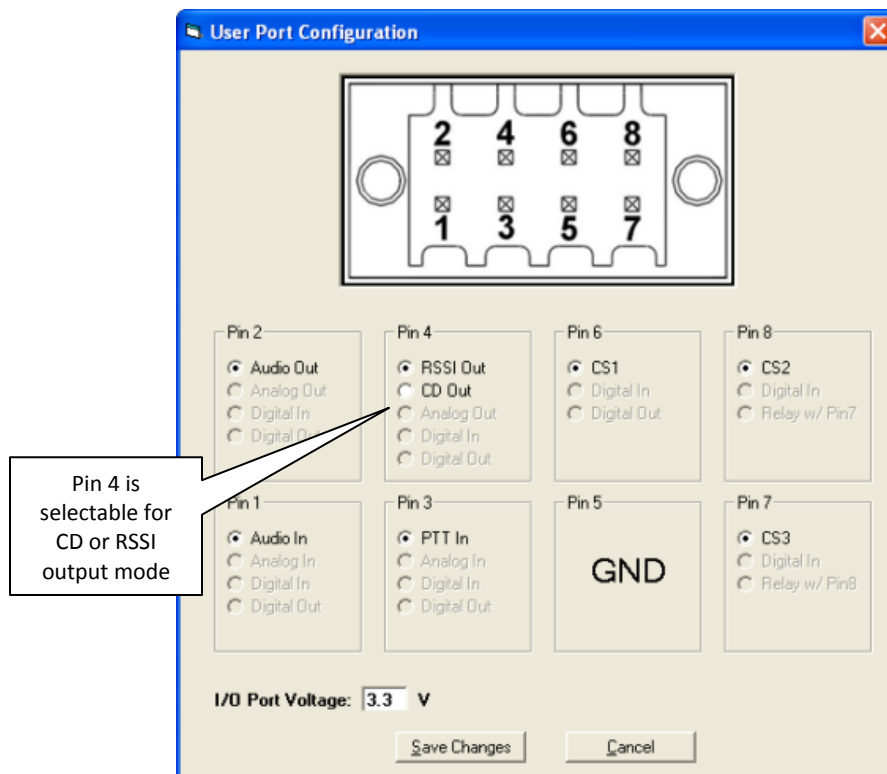

Fig. 7
In 'Loader' mode the User Port controls the analog radio functions. Pin 4 can be programmed to provide a Carrier Detect (CD) output; 0-5 VDC or 5-0 VDC. Pin 4 can also be programmed to output the receiver RSSI level as a DC voltage allowing it to be used for system monitoring and control. (Fig. 7)